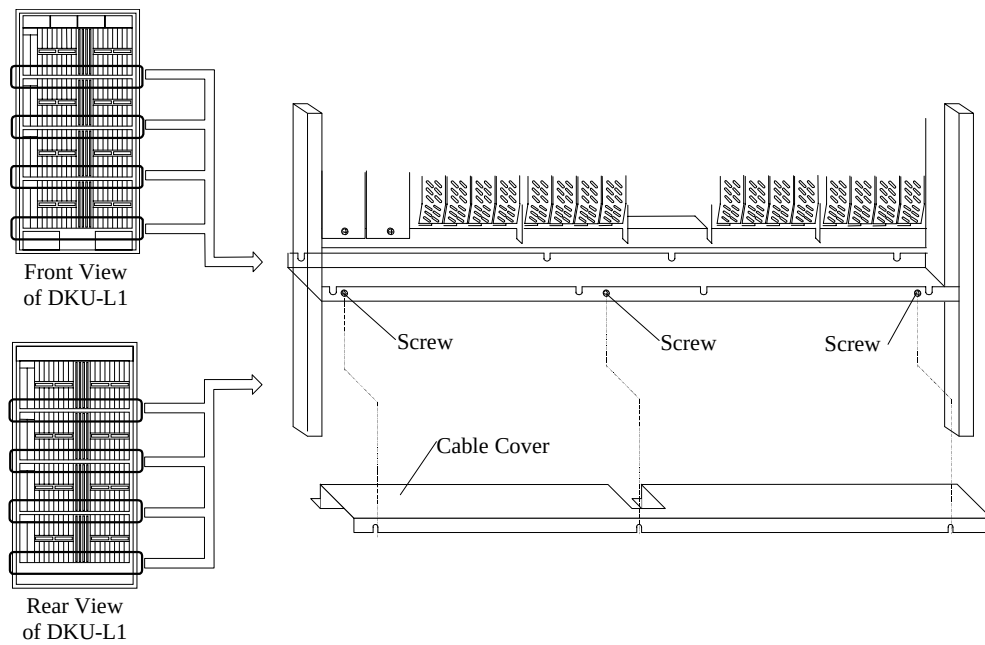

Fig. 3.11.8-2 Removal of Cable Covers
- c. Refer to Fig. 3.11.8-3 and Fig. 3.11.8-4. Connect the DEV interface cables to the sub-edges on the FSW PCBs in the HDU box.